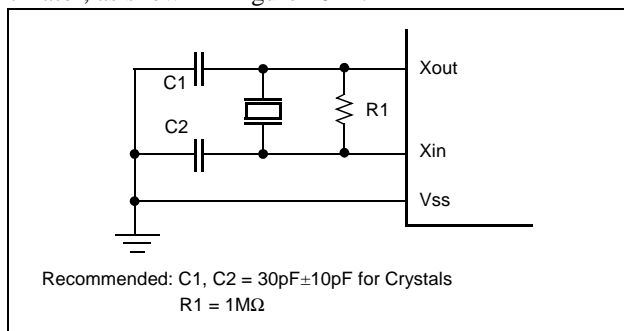

Figure 10-2 Oscillator Connections
XIN and XOUT are the input and output, respectively, a inverting amplifier which can be set for use as an on-chip oscillator, as shown in Figure 10-2.
**Note:** When using a system clock oscillator, carry out wiring in the broken line area in Figure 10-2 to prevent any effects from wiring capacities.